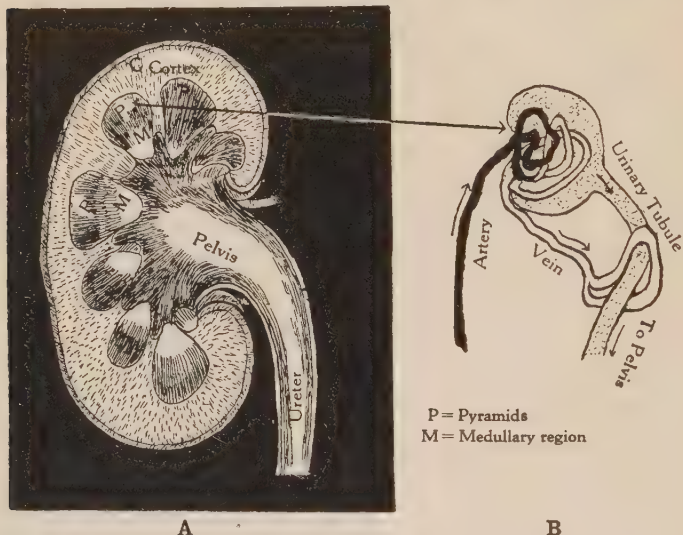

FIGURE 291.—THE STRUCTURE OF THE KIDNEYS.
tion of much carbon dioxide and water occurs. (2) The *skin*, rich in capillaries, is a general waste station. Slight traces of carbon dioxide, great quantities of water and salt, and traces of nitrogenous materials are eliminated through its pores. The amount eliminated depends upon the body temperature, the surrounding air, and the kind of work the body is doing. With these surface wastes goes the excess heat of the body, and we are cooled by the evaporation of perspiration. (3) The third general waste station consists of the *kidneys*, where urea, uric acid, products of putrefaction from the intestines, and water are extracted from the blood, formed into *urine* (ū'rīn), accumulated in the bladder, and given off from the body at intervals through the *urethra* (ū-rē'thrā) (Fig. 291).